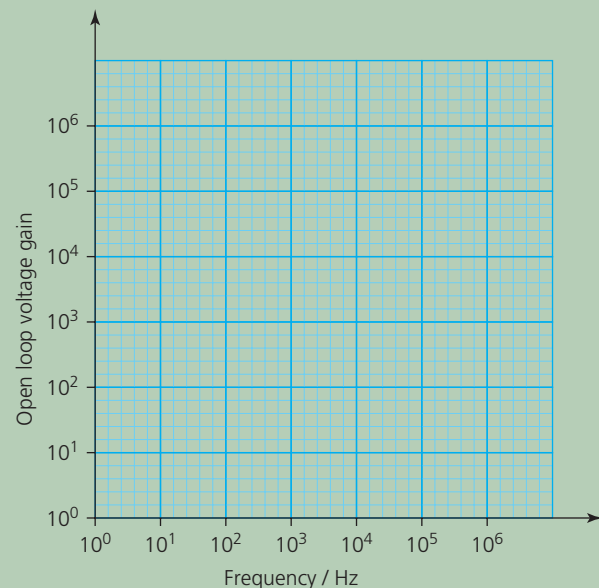

Figure Q3
- The pre-amp has a gain–bandwidth product of 1 MHz . Draw a graph using axes as in Figure Q3 to show how the open-loop voltage gain (which can be assumed to be infinite) of the op-amp varies with frequency.